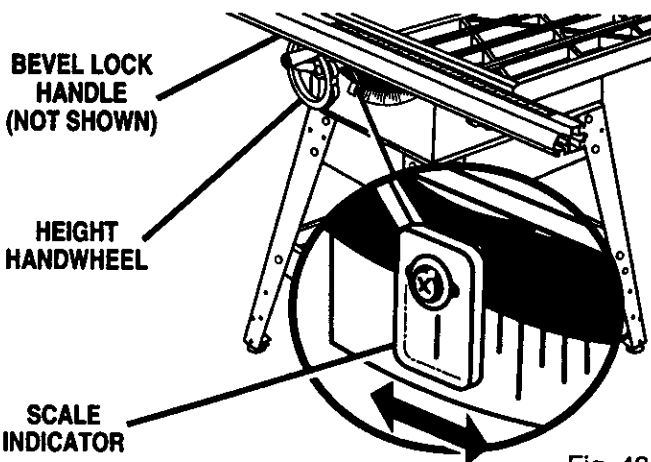

Fig. 43
See Figures 43 and 44.
- Loosen bevel lock handle and turn the bevel handwheel clockwise to tilt the blade. See Figure 43. Reverse it and turn handwheel counterclockwise until it stops.